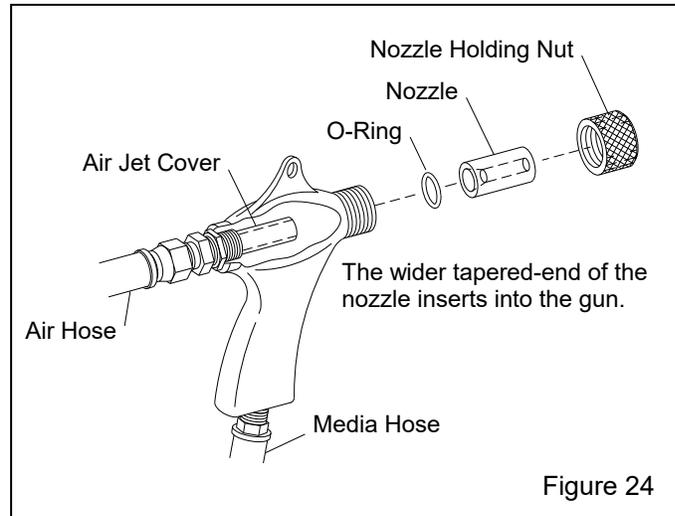

Figure 24
7.2 BNP® Gun Assembly – Figure 24